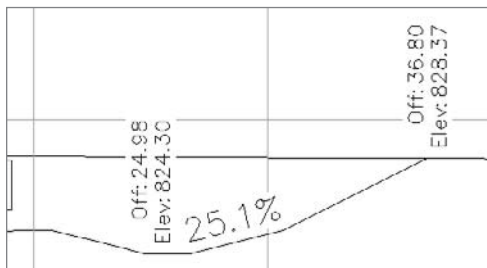

Figure A.96
3. Use the Label Type pull-down list to choose Grade, and then use the Grade Label Style pull-down list to choose Grade, as shown in Figure A.96.